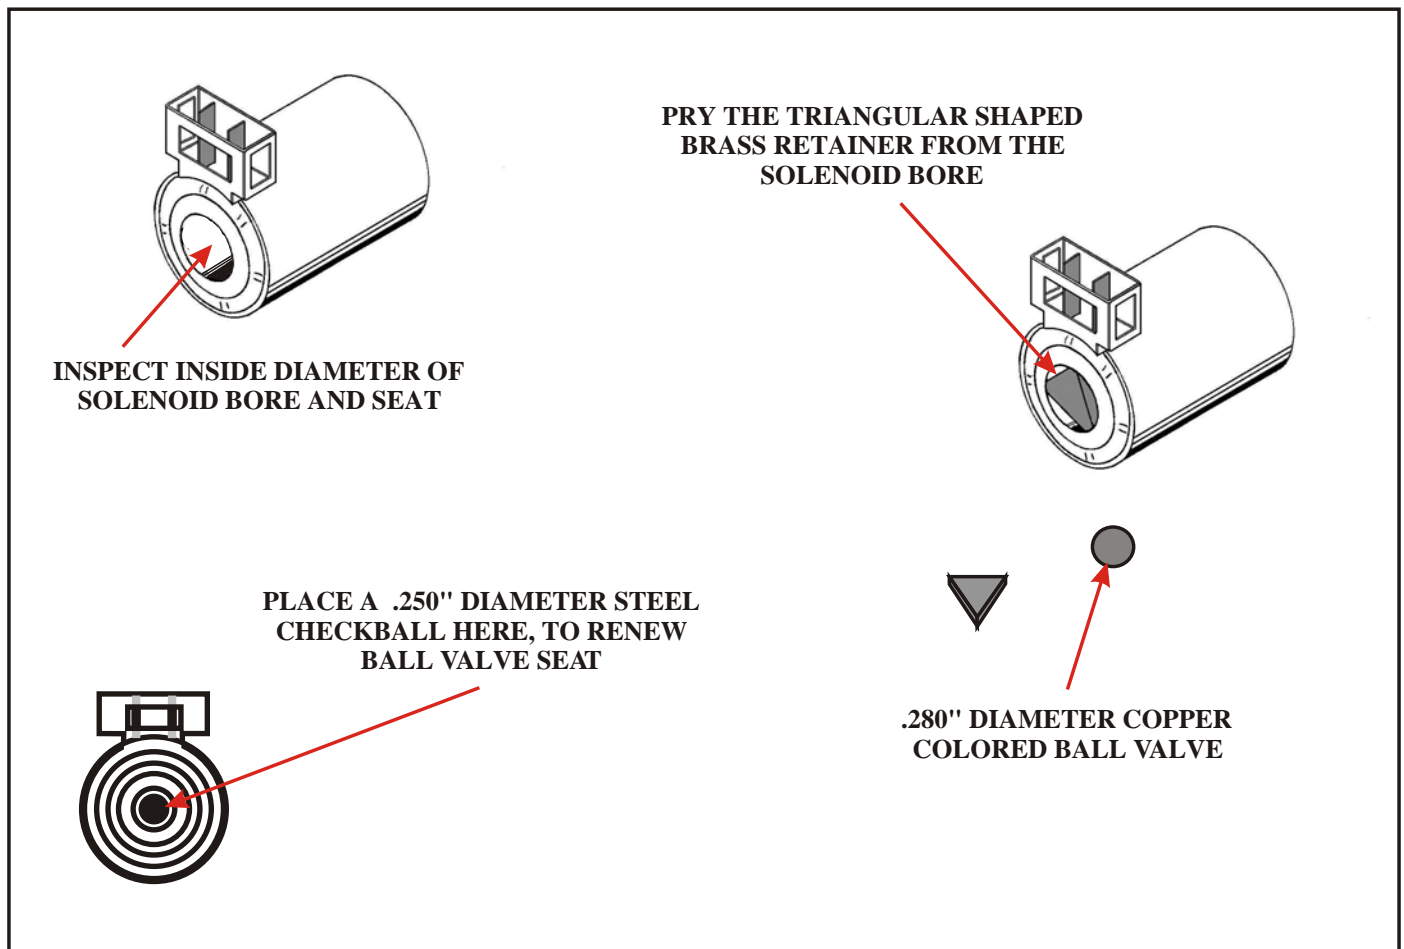

Figure 2
- (2) Place the solenoid on work area with the end that goes into the valve body facing down. Using a small screwdriver or scribe, carefully pry the triangular shaped brass retainer out of the solenoid bore (See Figure 2).
- (3) Remove the large .280" diameter ball from the solenoid (See Figure 2). Inspect the solenoid ball carefully. The ball should be completely smooth, with no pitted areas and no visible flat spots. Clean all debris as necessary.
- (4) Inspect the inside diameter of the solenoid bore for damage or scoring from the ball valve. Polish the inside bore with Scotch-brite ®, as shown in Figure 2. If the solenoid bore cannot be polished smooth, the solenoid should be discarded.
- (5) Inspect the ball seat in the bottom of the solenoid bore for embedded debris and/or damage. If the seat is in good condition, place a steel .250" diameter ball onto the seat, with the solenoid resting **on** a vise, not in the jaws. Using a drift punch and a small hammer, lightly tap the steel checkball several times to "renew" the seat in the solenoid, allowing the ball valve to have a better seal.
- (6) Remove the steel checkball and re-install the .280" diameter, copper colored ball valve back into the solenoid bore. Gently press the triangular shaped brass retainer into the solenoid, and gently stake in place (See Figure 2).